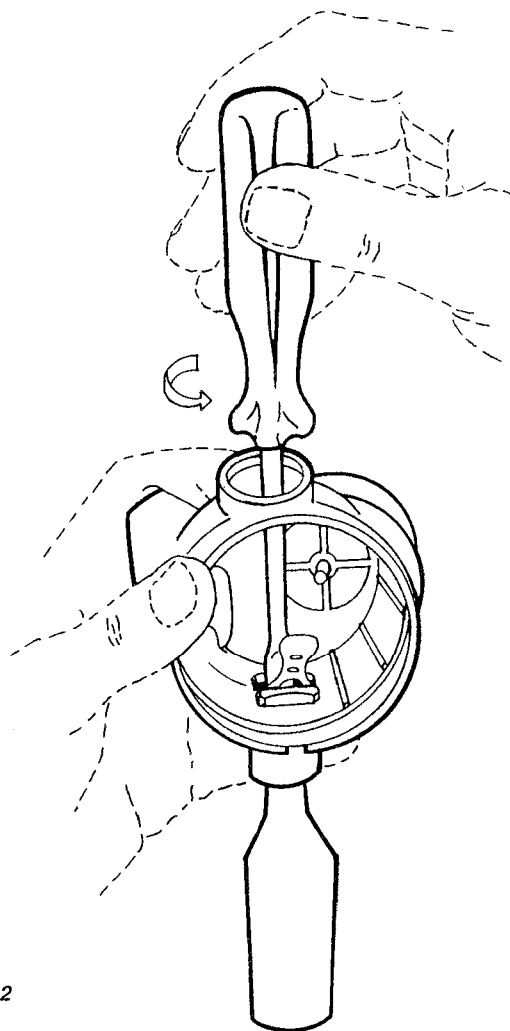

FIG. 2
14. Remove the Dacor sticker from the adjustment knob (130).
15. Unscrew screw (131).
16. Remove adjustment knob (130).
17. Extract adjustment plug (129) using wrench (B-26).
18. Using pliers remove the assembly including the adjustment pin (134) with its O-Ring, the adjustment bushing (127) and the spring (126).
19. Remove the spring (126).
20. Extract the pin (134) from the bushing (127).
21. Remove O-Ring (132) from pin (134).
22. Extract the adjustment shaft (125) from the body (128).
23. Gently pressing, press the adjustment body (128) into the case and remove the O-Ring (83) from its seat on the 2nd stage case.
24. Place the 2nd stage case on the special tool (B-6) gently pressing. Then, using nut driver (B-12), unscrew lock nut (33) and remove demand lever (35) and washer (34). (Fig. 2)